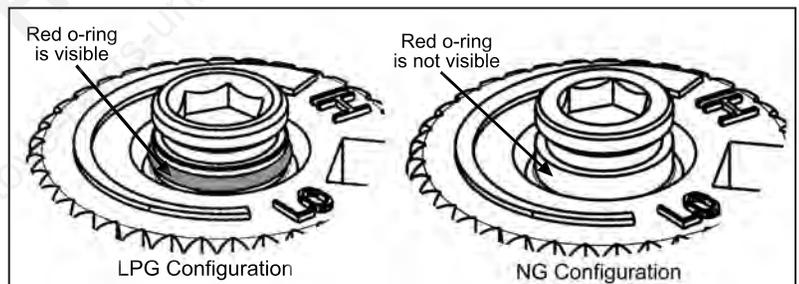

Figure 11: O-ring on valve screw.
f) Verify that if the conversion is from NG to LPG, the screw must be re-assembled with the red o-ring visible (refer to Figure 11). If the conversion is from LPG to NG, the red o-ring of the screw must be not visible.